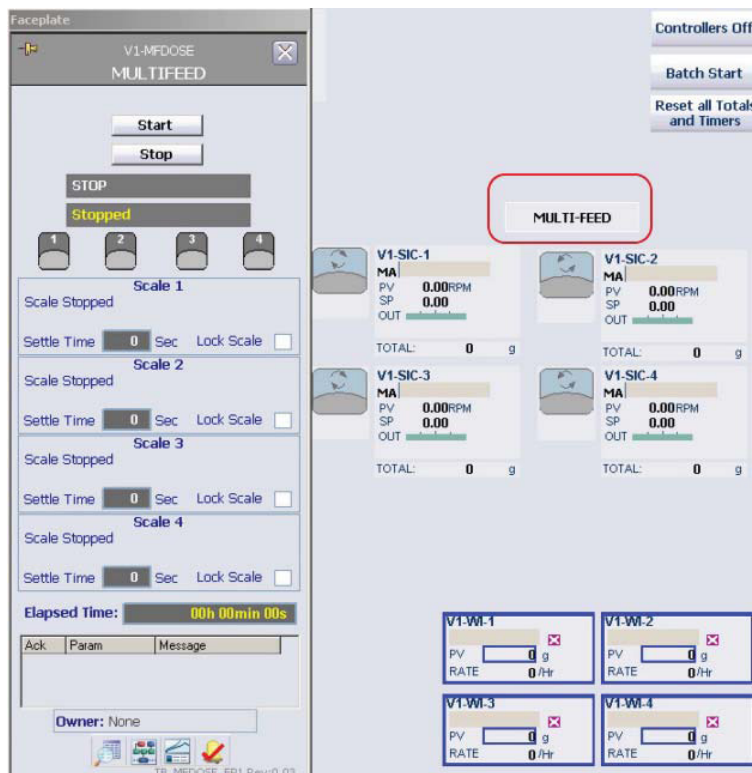

Figure 4.48. MultiFeed control faceplate.
1. To access the MultiFeed control faceplate (Figure 4.48) from the Main screen, click the **MultiFeed** control box, located immediately above the pump control boxes.